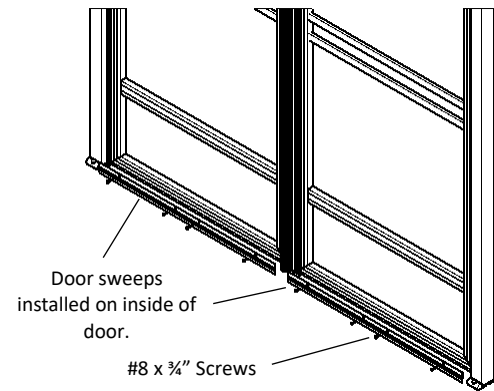

Fig. 13
1. Door sweep will be installed after all other components are in place. (Fig. 13) Cut door sweep so that you have an equal amount of spacing between slotted holes on each end of door sweep. Use #8 x $\frac{3}{4}$ " self-tapping screws placing them into the slots on door sweep and attaching into bottom inside of door.